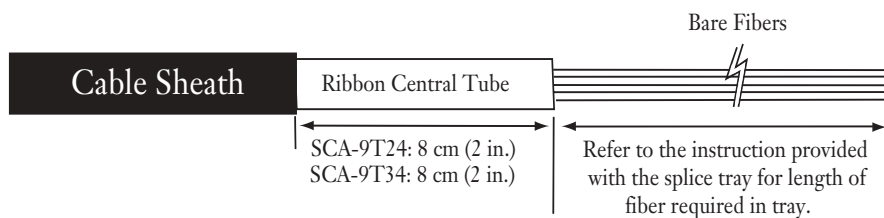

Figure 4 — Endspan Sheath Removal
For endspan applications, remove cable sheath as shown in Figure 4.
- Step 4** Place two nuts into the retainers in the bottom shell. Insert the two supplied bolts through the holes in the hanging bracket and the sealing washers with the gaskets on the washers next to the terminal. Install into the terminal and tighten (Figure 4).